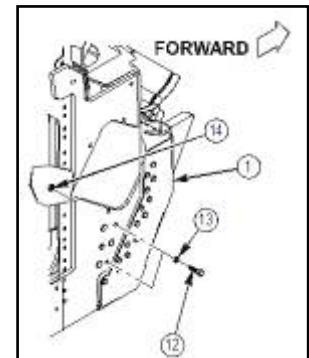

Figure 34b
15. Remove two capscrews (12), washers (13), and locknuts (14) from vehicle (1) as shown in figure 34b. Discard all fasteners.